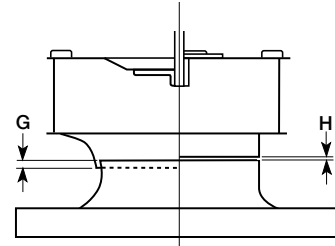

Figure 7
1. Check all fasteners and setscrews for tightness. The wheel should rotate freely and be aligned as shown in figure 7.